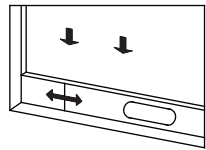
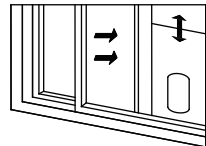

Figure. 9
Figure. 10
- 1.) Half open the window, and mount the window sealing plate assembly to the window (as shown in Figure 9 and Figure 10), the assembly can be placed in horizontal and vertical direction;